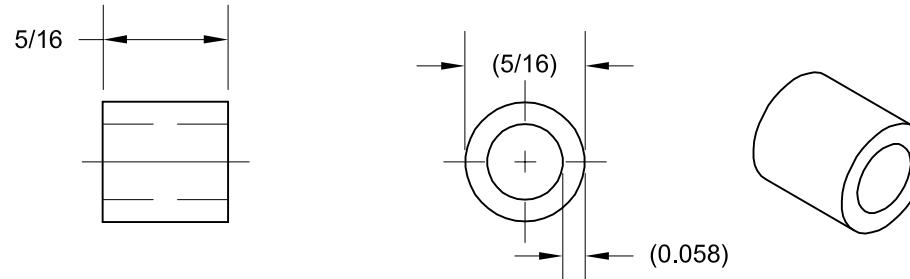

FIGURE 2: SPACER DIMENSIONS
Step 2: Create four F-1097 Spacers from AT6-058X5/16 per the dimensions in Figure 2.